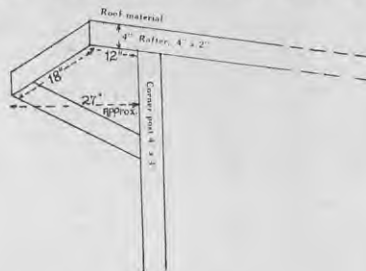

Fig. 9.
**4. Protection Against Rain at the Front of the House.**—With an open-fronted house there is a danger of rain driving in with a wind blowing directly on to the front of a house during a storm. This trouble can be obviated to an appreciable extent by an extension of the roof, either straight-out for about 2 ft. 6 in. following the roof-line, or by a hood of the type illustrated in Fig. 9. Such an extension or hood will